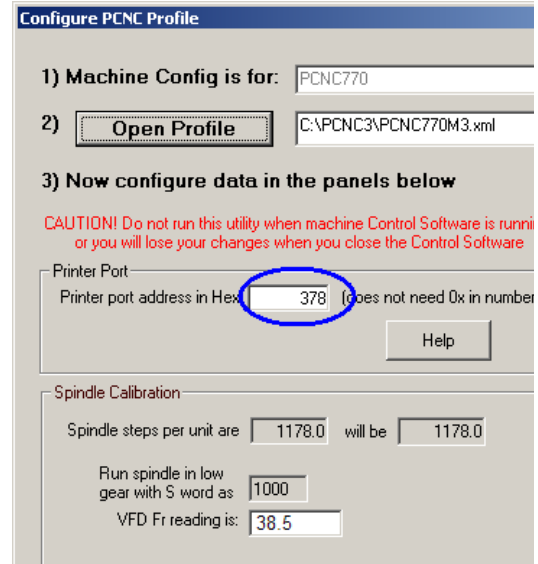

Figure 9.14 – Entering port address
9. Finally, run the PCNCConfig program and open the PCNC770 profile (details in section 9.5.8 above) and enter this number under the “Printer Port” heading (figure 9.14).